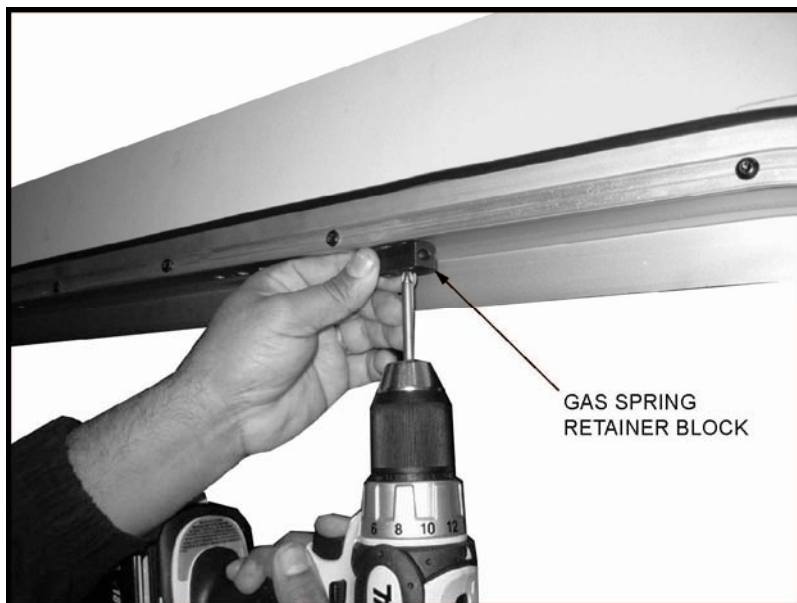

FIGURE 8: GAS SPRING RETAINER BLOCK
8. Refer to **Figure 8**. Install Gas Spring Retainer Block onto window frame with hardware provided.